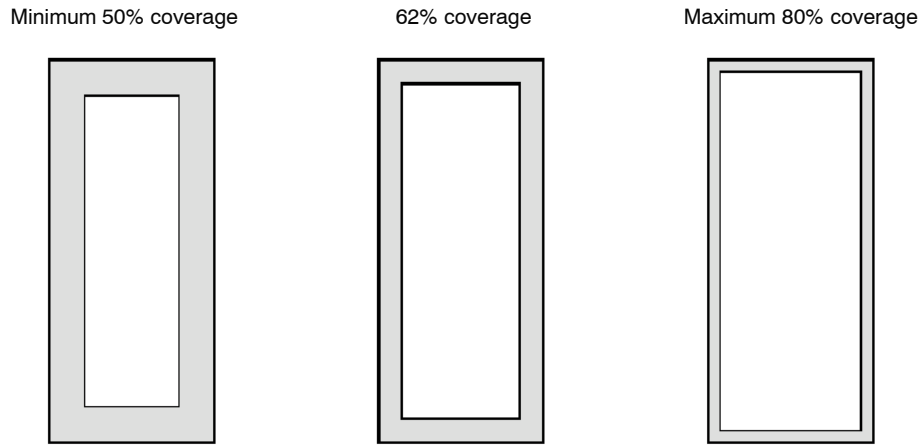

Figure 21. Solder Paste Application on Pins
4. The aperture opening for the signal pads should be between 50–80% of the QFN pad area as shown in Figure 21.